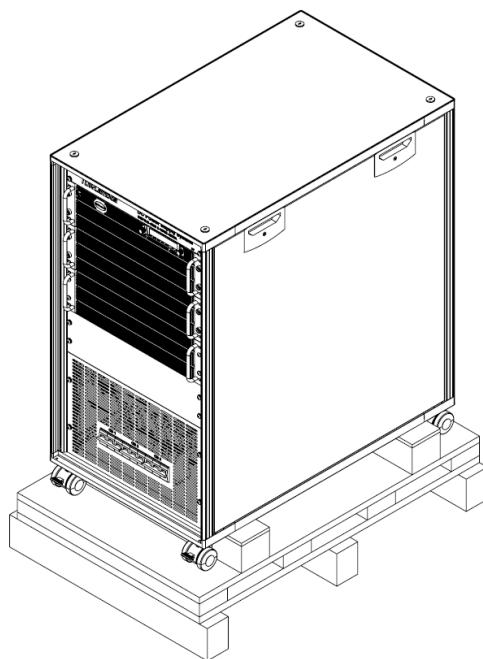

Figure 4-4: GSPS Power System
5. The Power System is ready to transport for placement Figure 4-4.